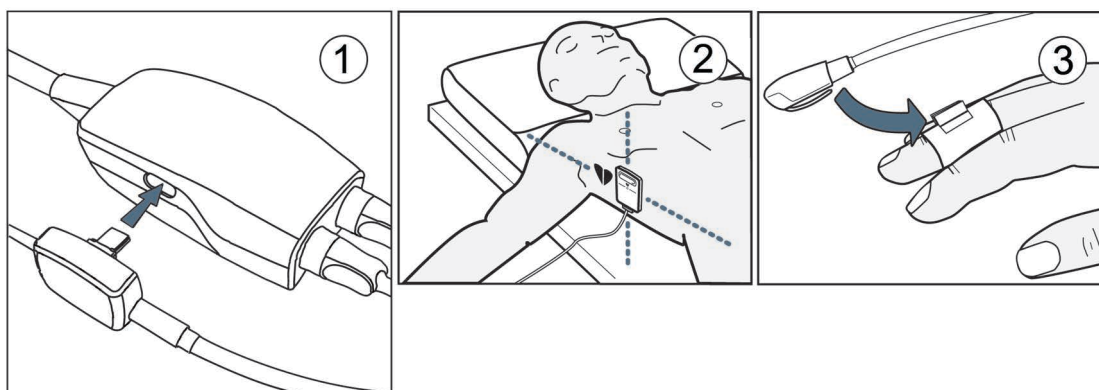

Figure 10-5 Heart reference sensor application
- 1 Connect the HRS to the wrist applied pressure controller. See ① in figure 10-5.
- 3 Apply the heart end of the HRS to the patient at phlebostatic axis level by using an HRS clip. See ② in figure 10-5.
- 4 Attach the other end of the HRS to the finger cuff. See ③ in figure 10-5